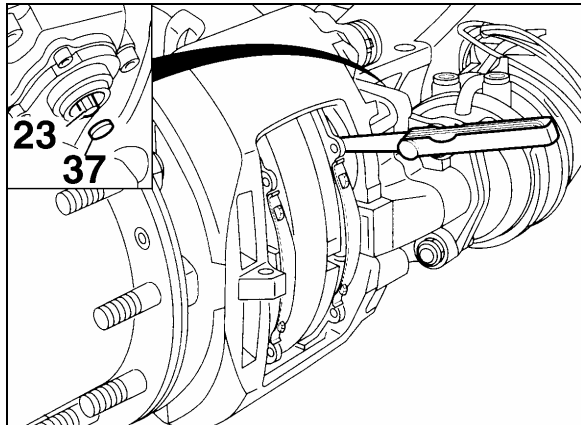

FIGURE 37: RUNNING CLEARANCE
- a) Insert a feeler gauge 0.028 inch (0.7 mm thickness) between tappet and pad back-plate (Fig. 37). Turn adjuster pinion clockwise until 0.028 inch (0.7 mm) clearance is achieved. Replace cap (37) (Prévost # 641313).
- b) To ensure a constant running clearance between the rotor and pads, the brake is equipped with an automatic adjuster unit. When the pads and rotor wear, the running clearance between the pads and rotor increases. The adjuster (23, Fig. 37) and